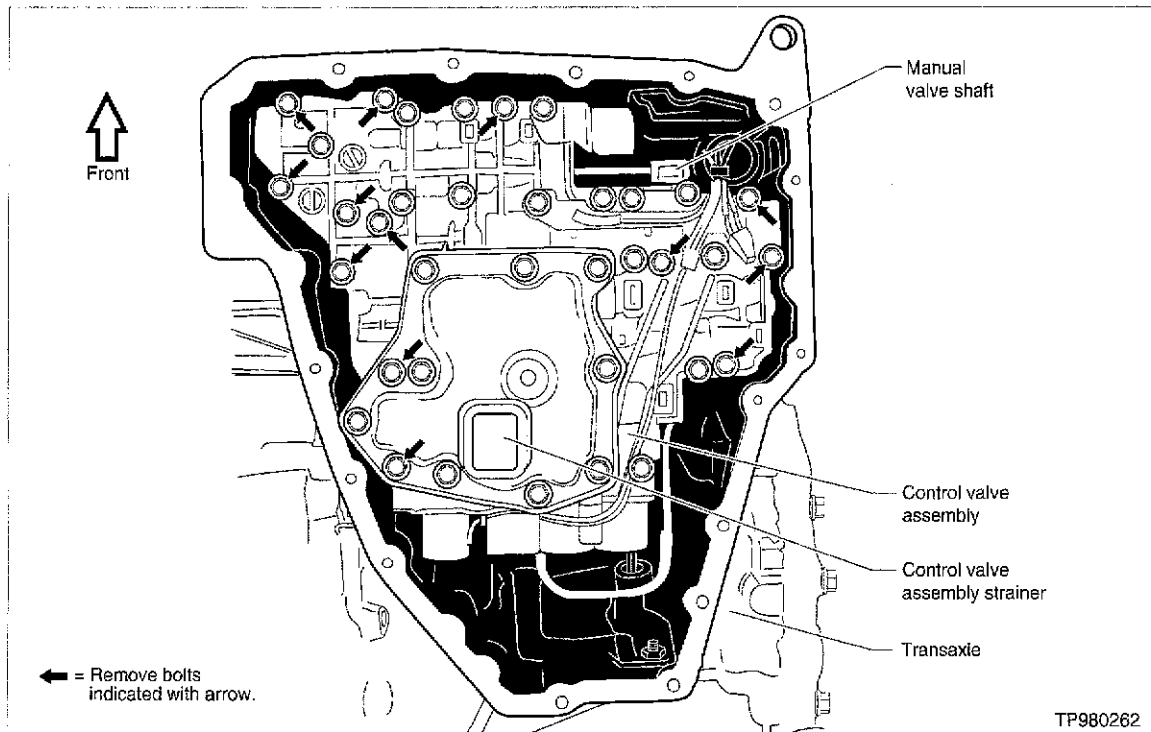

Figure 2
5. Remove **ONLY** the thirteen 10 mm bolts (shown in Figure 2) holding the control valve assembly to the transaxle. Remove the control valve assembly.